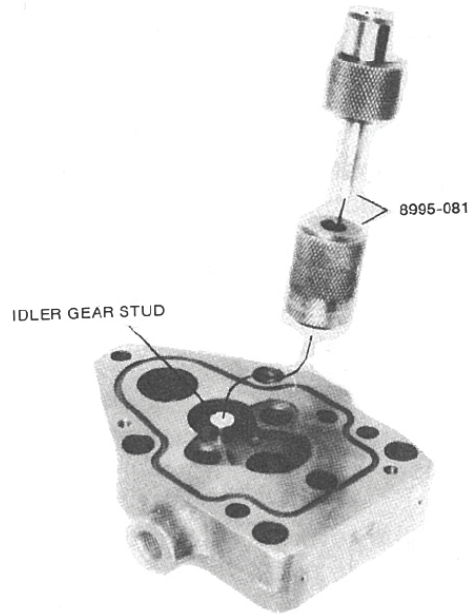

Figure 3-8. Install Idler Gear Stud and Gear
4. Place idler stud (29), if previously removed, in I position.
5. Seat idler stud gear (28) in base with tool 8995-081 as shown in Figure 3-8.